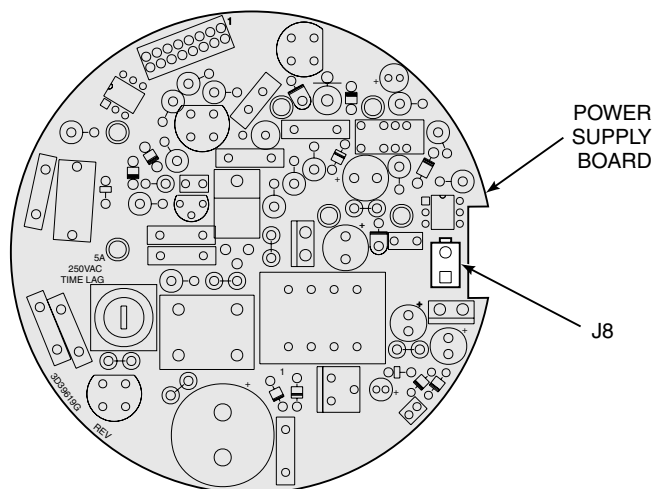

Figure 6-6. J8 Connector
4. The J8 connector (heater leads) can be accessed by moving the J1 connector leads out of the slot on the microprocessor board and sliding the electronic assembly partially out of the housing (Figure 6-6).
3. The J8 connector (heater leads) can be accessed by moving the J1 connector leads out of the slot on the microprocessor board and sliding the electronic assembly partially out of the housing (Figure 6-6).